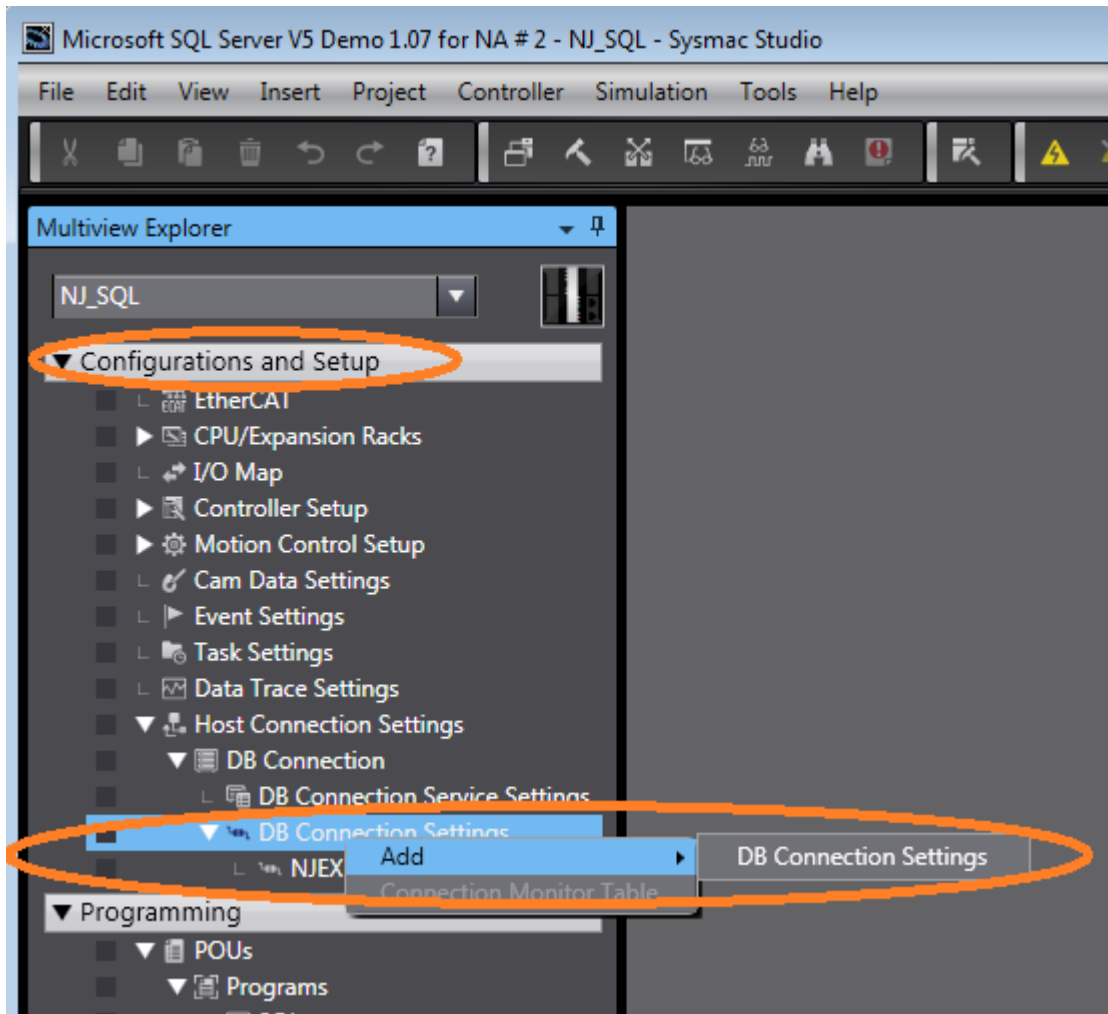

Figure 1
- 1) Connection Name: Should match the name you gave to the configured connection in Figure 1.